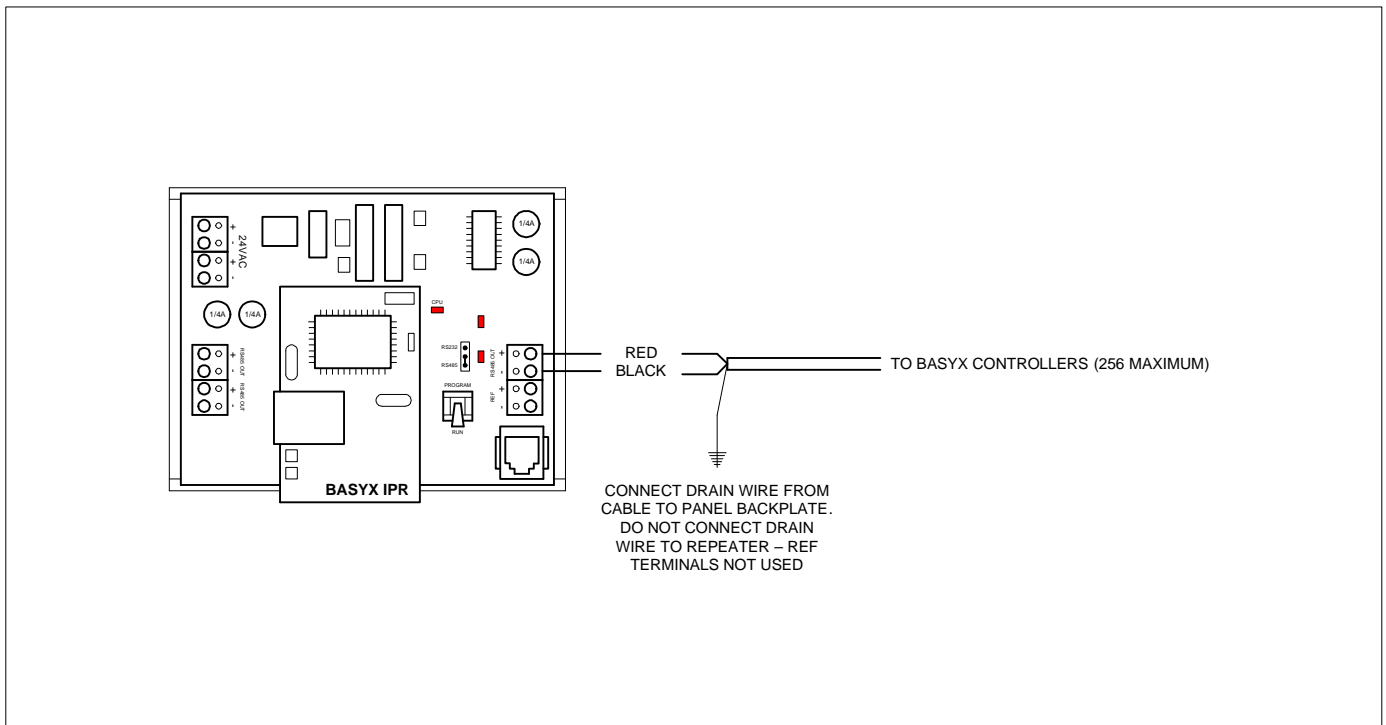

Figure 4: RS485 Channel Loop Communications Connection
Each BASYX IPR has one (1) channel for communications with additional BASYX controllers. There is no addressing required, and the IPR is a transparent device within the communication circuit. The standard limit of 256 controllers applies within the entire system, but is not dependent upon any specific configuration. Any number of controllers may be installed on the channel connection of the IPR repeater. **Figure 4** show the proper method for channel communications connection.